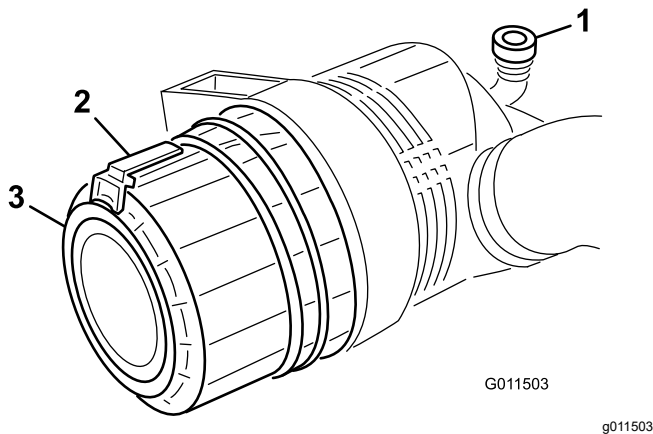

Figure 53
1. Pull the latch outward and rotate the air-cleaner cover counterclockwise (Figure 53).